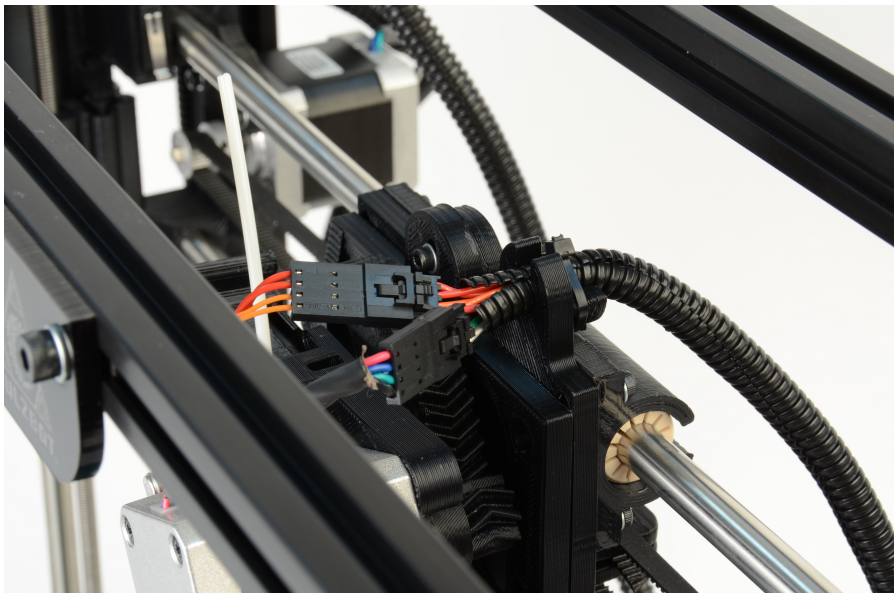

Figure 1.13: Connect the two tool head connectors
10. Connect the stepper motor and the hot end to the existing wiring harness located at the top of the X axis carriage. Connect the matching male and female connectors with red/orange wires for the hot end and the other male and female connectors for the extruder motor (Fig. 1.13, page 25). Make sure the connector locks click to be sure that the connections are secure.